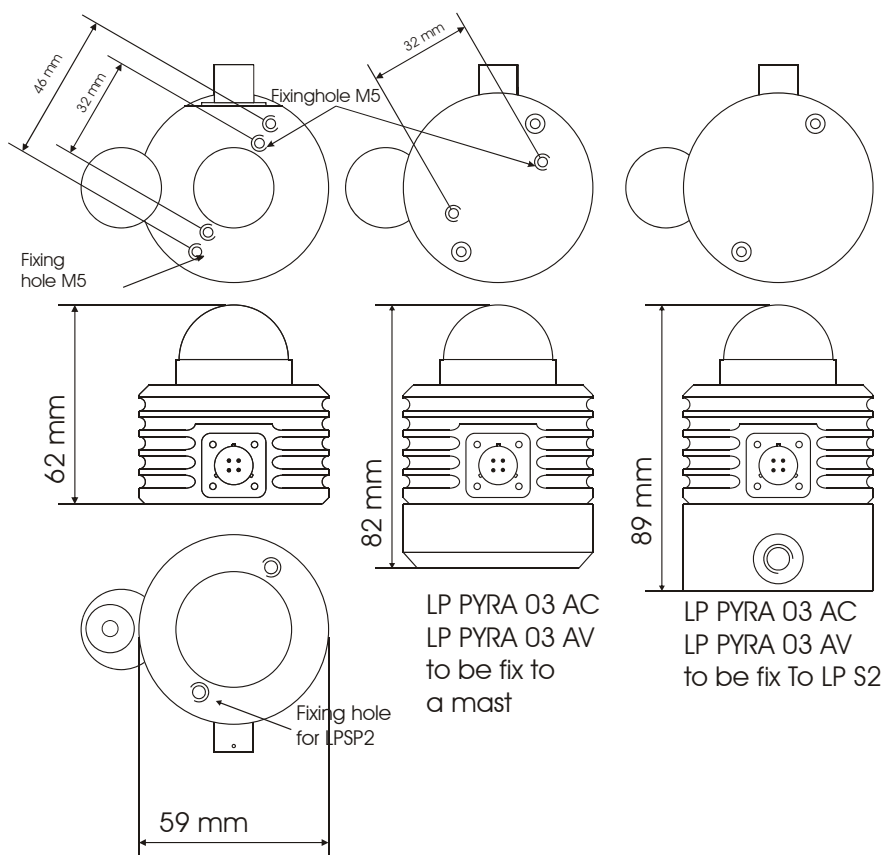

Fig 1
- In order to allow an accurate horizontal positioning of the instrument, use the holes on the pyranometer body or suitable accessories (figure 1,2).
Dimensions:	figure 1